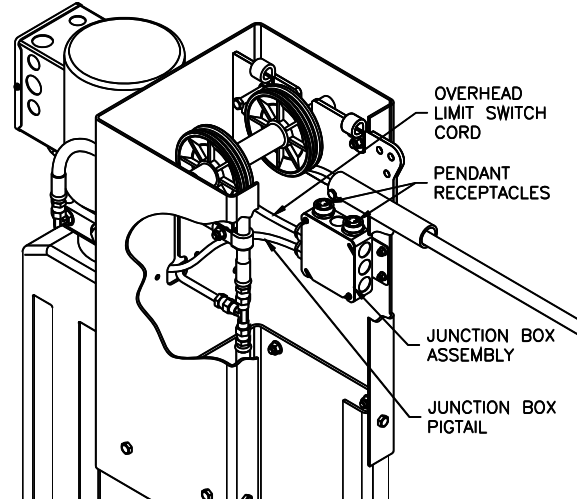

Fig 12 – Junction Box Assembly
- 33) Install Junction Box Assembly to inside of Power Column with (2) #10-32 x 1/2" lg. phillips pan head screws and flange nuts, **Fig 12**.